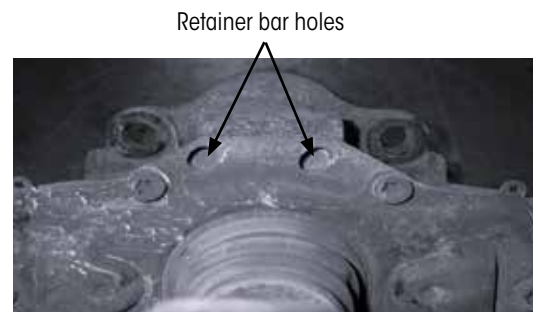

Figure 10: Retainer bar holes
2. Measure the holes at the longest direction, Figure 10. If either of the measured holes are 12mm (.472 inches) or larger replace the caliper assembly.